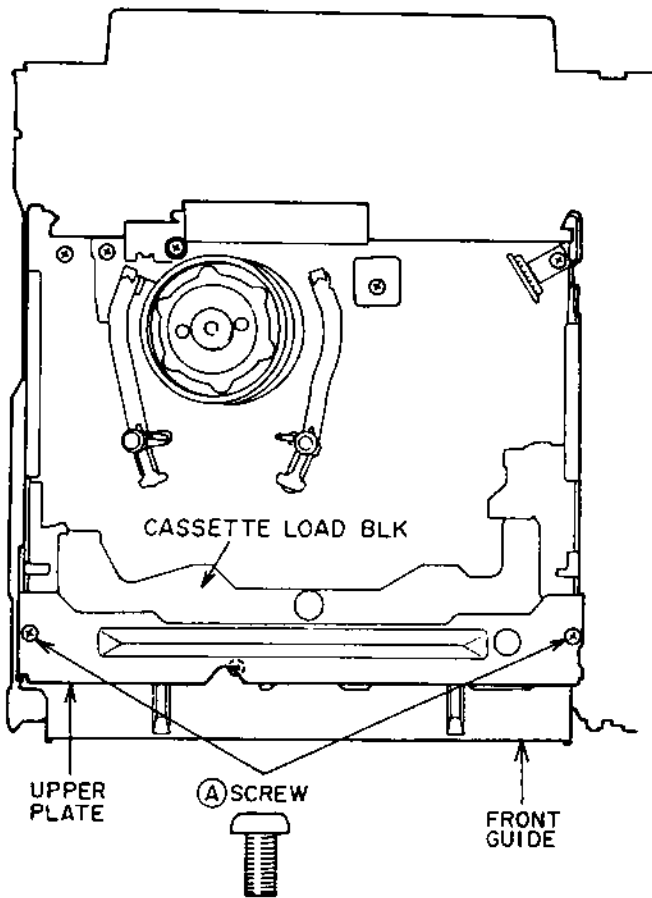

Fig. 4-1
- 1) Remove the two (A) screws on the UPPER PLATE as shown in Fig.4-1 then remove the UPPER PLATE.